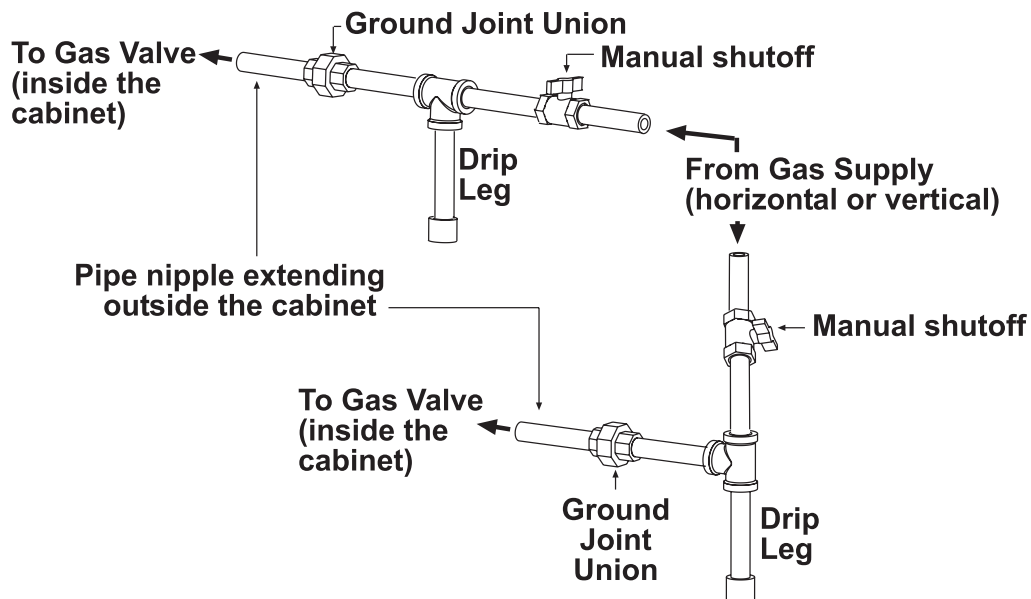

Figure 25. Gas Connections
- Gas connections are shown in Figure 25 and gas connections sizes are listed in Table 16.
- Install a ground joint union and manual shutoff valve upstream of the unit control system. The 1/8-inch plugged tapping in the shutoff valve provides connection for the supply line pressure test gauge. *The National Fuel Gas Code* requires the installation of a trap with a minimum 3-inch drip leg. Local codes may require a longer drip leg, typically 6-inch (see Figure 25).